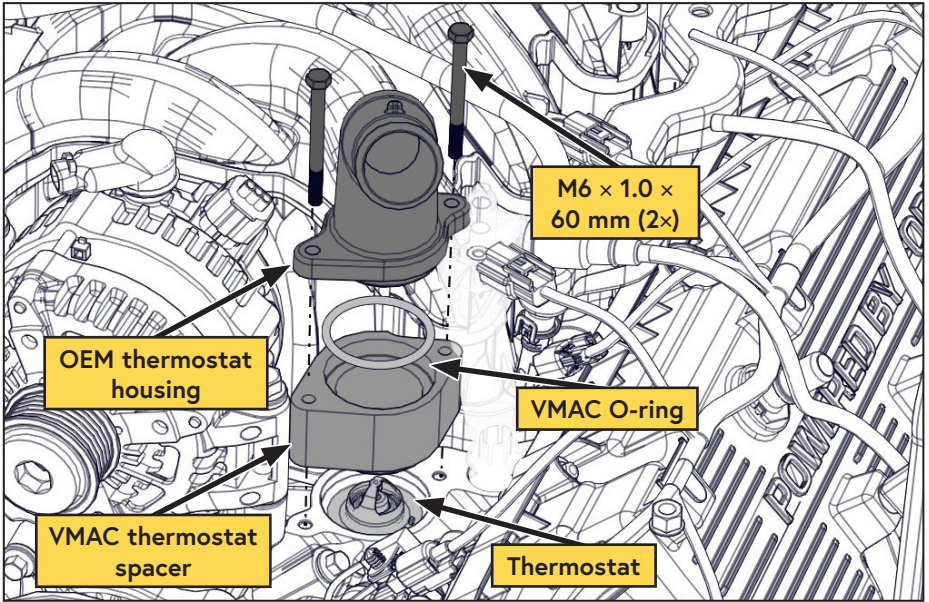

Figure 8 — Install thermostat spacer and housing
- Assemble the VMAC thermostat spacer, O-ring, thermostat housing, and the supplied M6 fasteners (Figure 8).
- Apply Loctite 242 (blue) to the M6 fasteners and rotate the thermostat housing assembly into place. Torque the fasteners to specification (Figure 8).